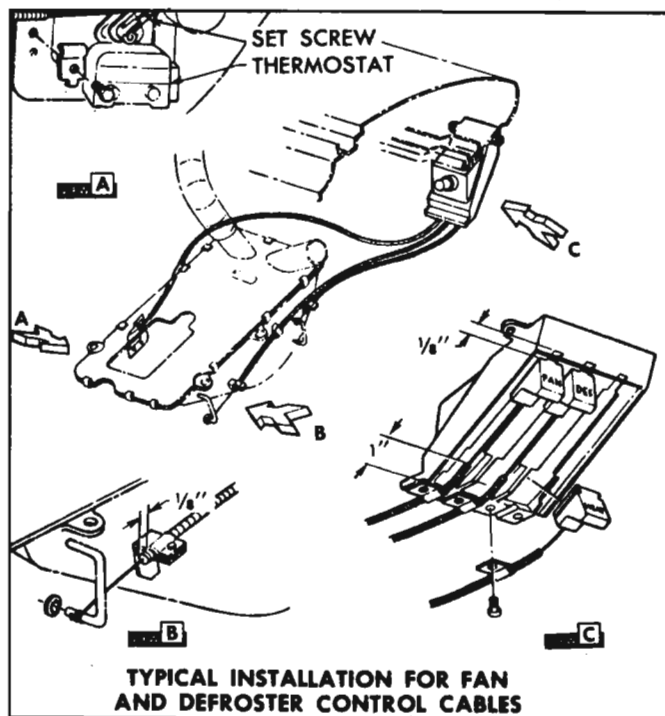

Fig. 11-27—Heater Controls
Refer to Figure 11-27.
Refer to Figures 11-27 and 11-28.
1. Move *Heat* control knob into *down* position within $\frac{1}{4}$ " of cable sheath. Control cable must be routed to thermostat. Cable must be attached to thermostat with thermostat lever in full clockwise direction. Cable may then be adjusted at heater control end to permit control knob to stop at extreme top of slot. Refer to Figures 11-27.